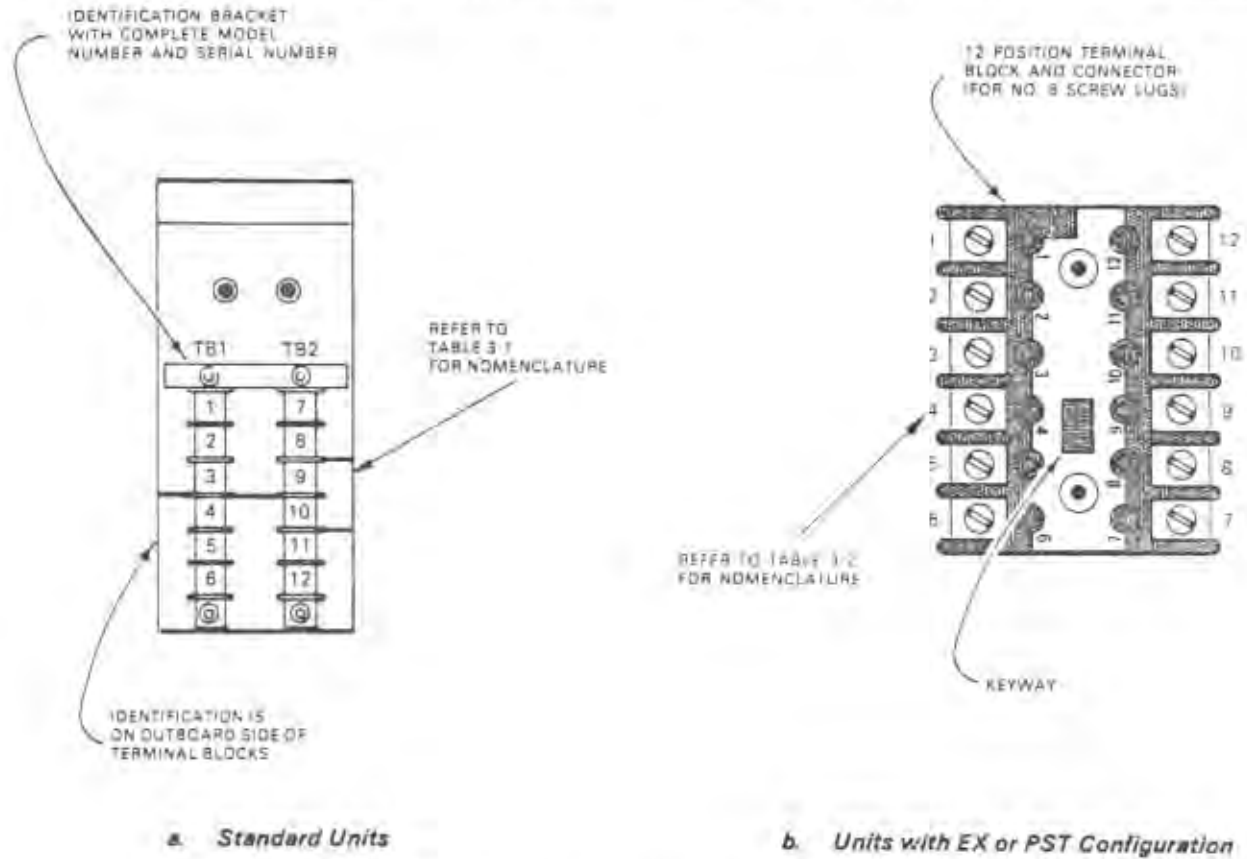

Figure 3-12. Terminal Strips and Terminal Blocks Identification
*Wiring Information for All Standard Units With Terminal Strips and Blocks.* Standard units with terminal strips or terminal blocks have terminals supplied with 6-32 screws long enough to easily accommodate three spade-lug connectors. Standard units with snap-off plastic covers have an opening in the bottom of the cover. Dress all wiring to and from the terminals through this opening. Spade lug connectors are recommended for all wire terminations. Figure 3-12 illustrates the
Options (Note 1)	Terminal Positions (See Figure 3-12)